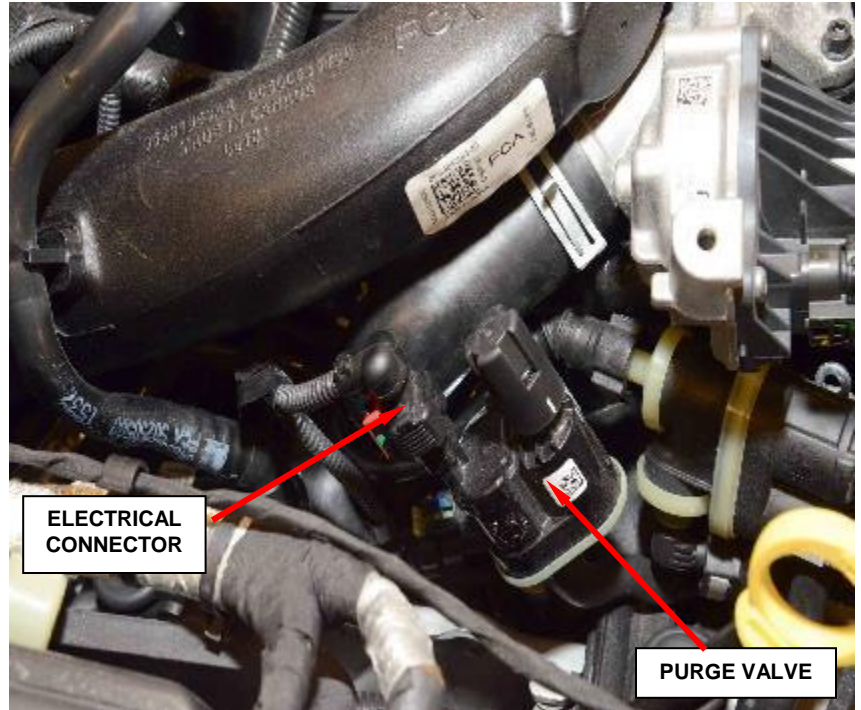

Figure 3 – Purge Valve Electrical Connector
5. Remove the purge valve electrical connector lock and disconnect the purge valve electrical connector (Figure 3).